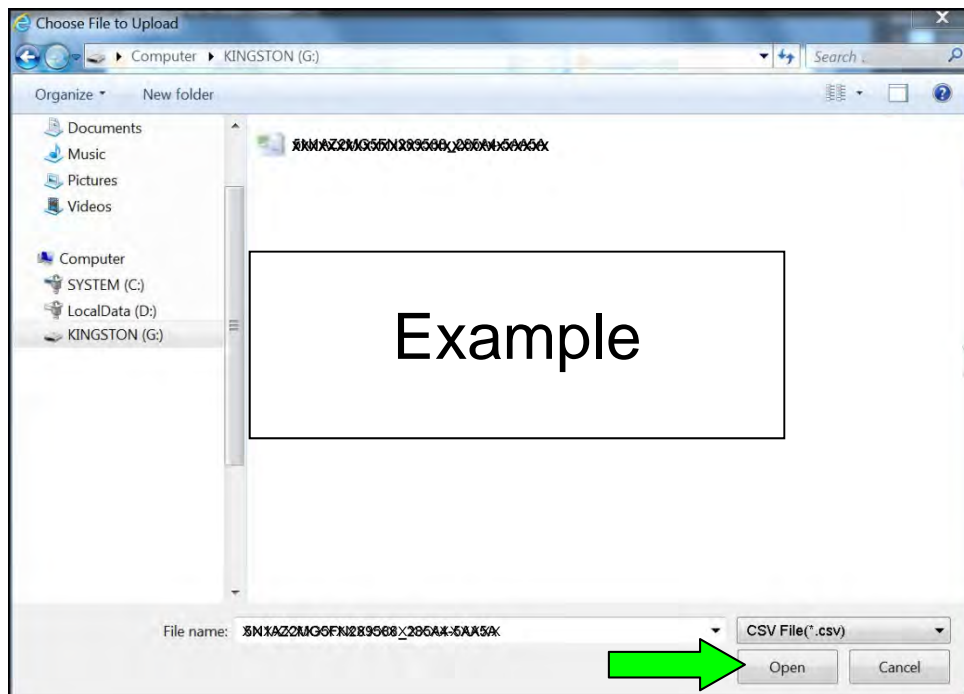

Figure 17
23. Navigate your CONSULT PC to the thumb drive and select the configuration file (see example in Figure 17).